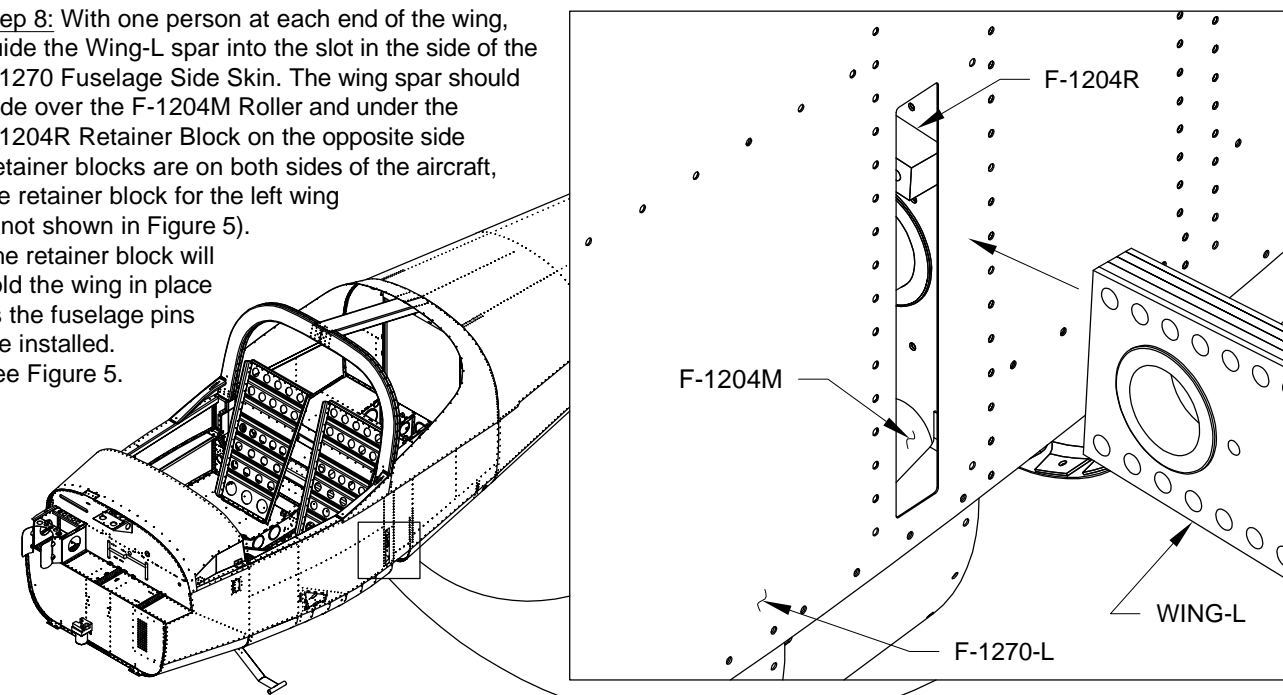

FIGURE 5: WING SPAR RECEPTACLE
Step 8: With one person at each end of the wing, guide the Wing-L spar into the slot in the side of the F-1270 Fuselage Side Skin. The wing spar should slide over the F-1204M Roller and under the F-1204R Retainer Block on the opposite side (retainer blocks are on both sides of the aircraft, the retainer block for the left wing is not shown in Figure 5). The retainer block will hold the wing in place as the fuselage pins are installed. See Figure 5.